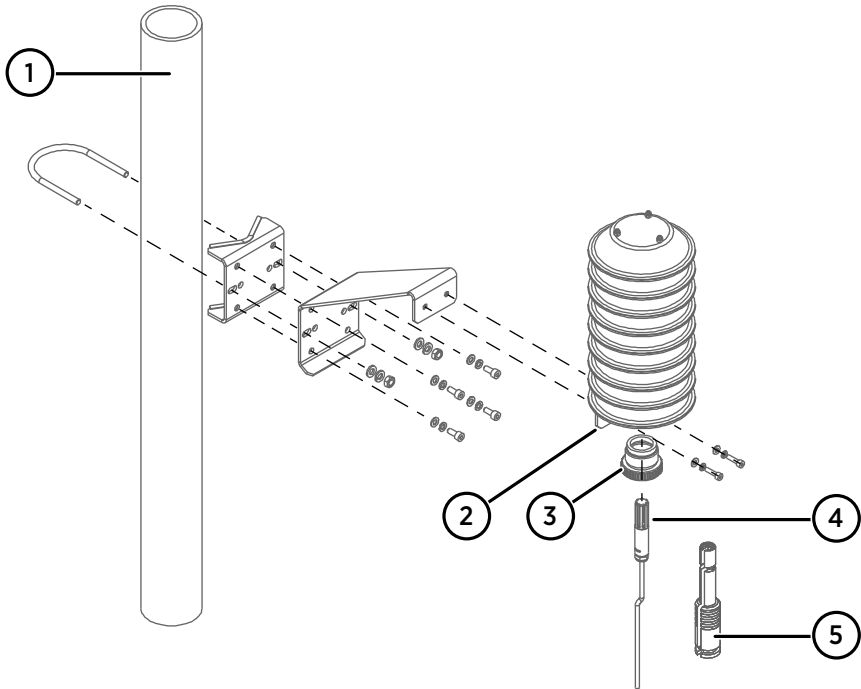

Figure 25 Mounting DTR502B on a pole mast
- ▶ 1. Mount the solar radiation shield in the measurement location using the provided mounting accessories, screws, and washers. You can mount the radiation shield to a pole mast as shown in Figure 25 \(page 50\), or to a horizontal beam directly from its support plate.